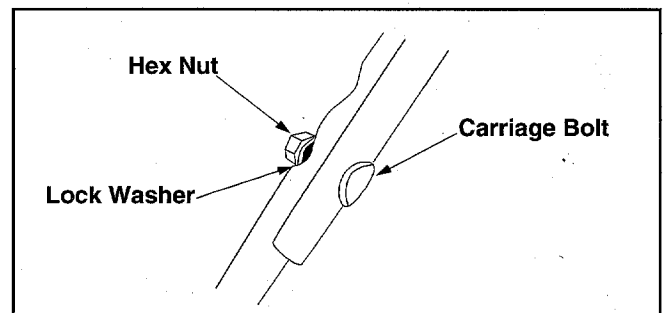

Figure 3
- Secure the upper handle to lower handle using the carriage bolts, lock washers, and hex nuts. The head of the carriage bolts go on the outside of the handle. See Figure 3.